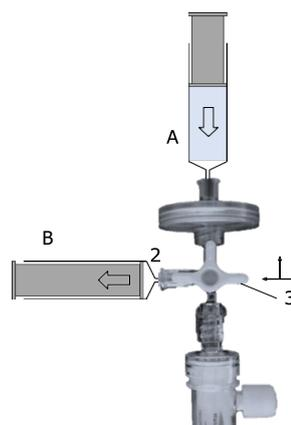

Fig 3
- Rotate the valve 3 to the position indicated by arrows in figure 3.